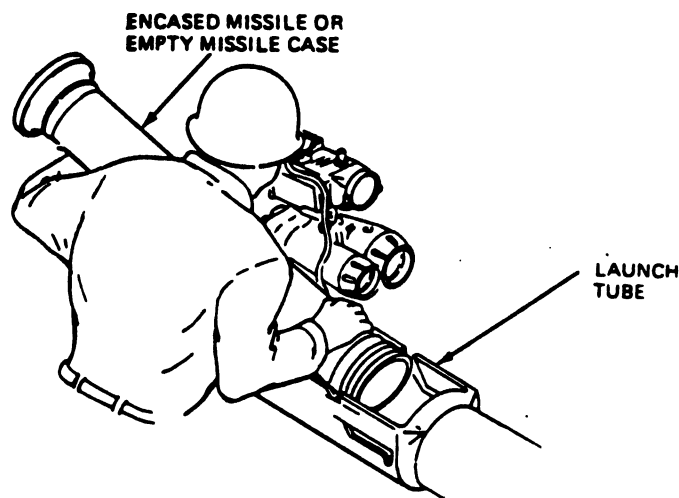

Fig 4-47. Removing encased missile/empty missile case.
Step 5. Remove the encased missile or empty missile case from the launch tube. (If the missile case is empty, dispose of it in accordance with unit SOP.) (fig 4-47).